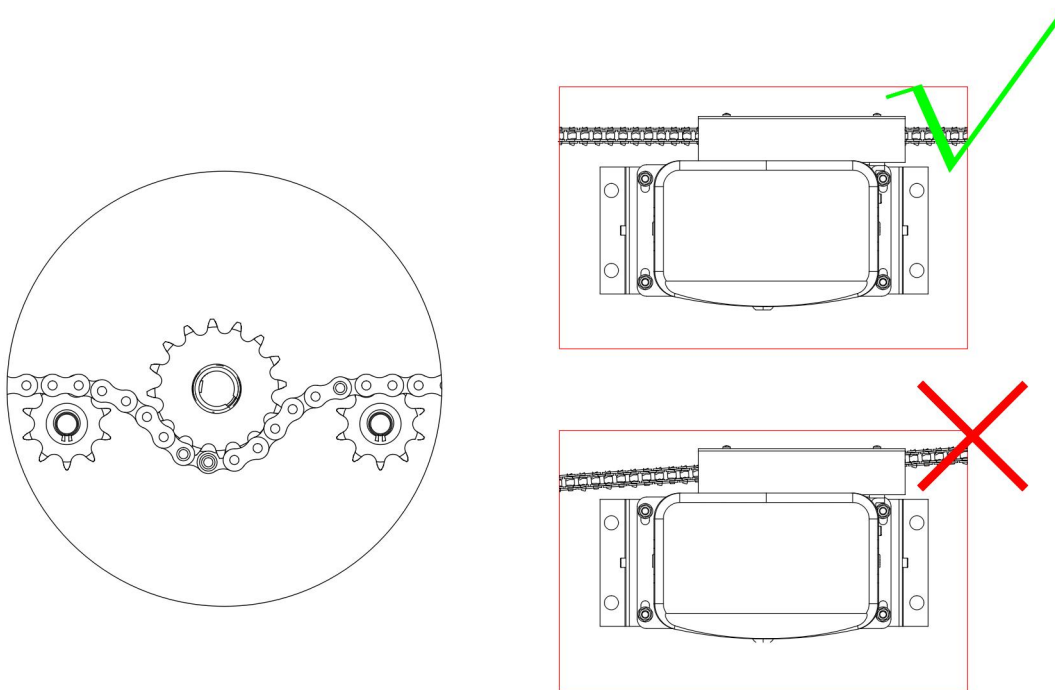

Figure 13
- Ensure the chain is in proper tightness after installation. (refer to Figure 13)